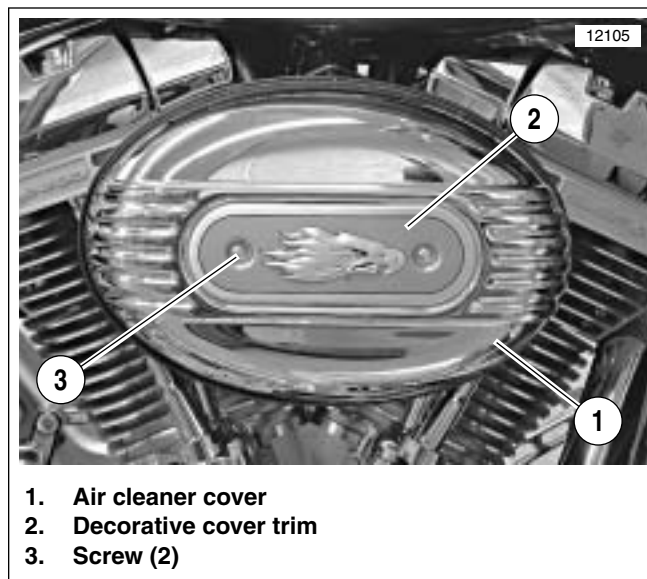

Figure 4-1. Air Cleaner Cover Trim and Screws
1. See Figure 4-1. Remove two screws (3) and decorative cover trim (2).